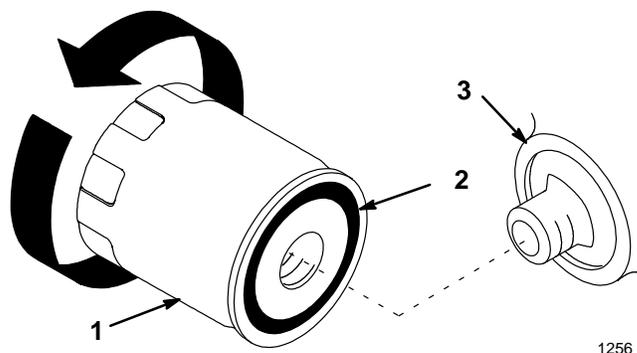

Figure 45
- Remove the transaxle filter and wipe the filter adapter (Fig. 45) gasket surface.
- Apply a thin coat of new oil to the rubber gasket on the replacement filter (Fig. 45).
- Install the replacement transaxle filter to the filter adapter. Turn the filter clockwise until the rubber gasket contacts the filter adapter, then tighten the filter an additional 3/4 turn (Fig. 45).